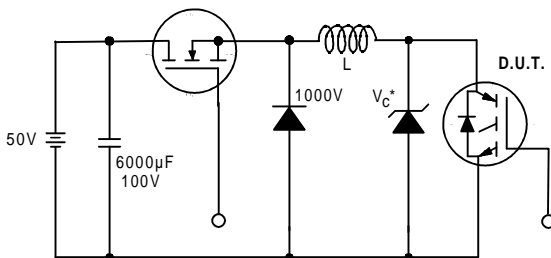

Figure 19. Clamped Inductive Load Test Circuit
② $V_{CC} = 80\% (V_{CES})$, $V_{GE} = 20V$, $L = 10\mu H$, $R_G = 5.0\Omega$ (figure 19)